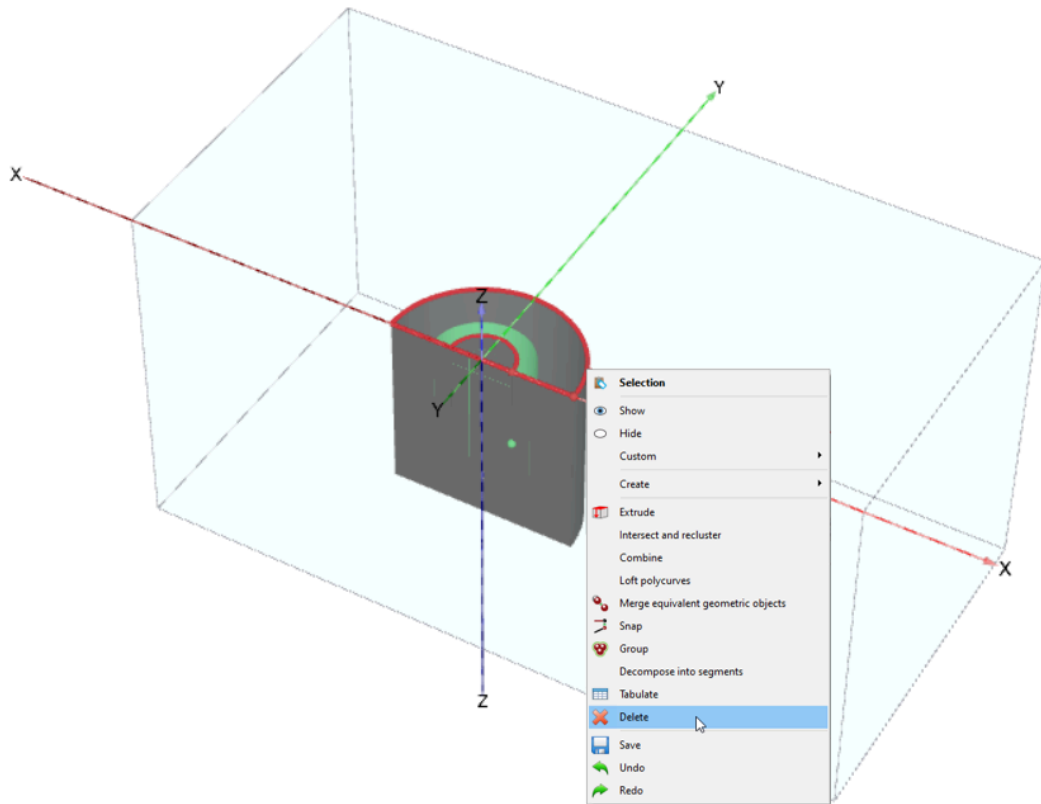

Figure 3-7: Deleting the two created polycurves
- 7 Select the just created polycurve and the polycurve of the suction pile created earlier, right-click and select **Delete** from the appearing menu as shown in Figure 3-7 \(p. 67\).